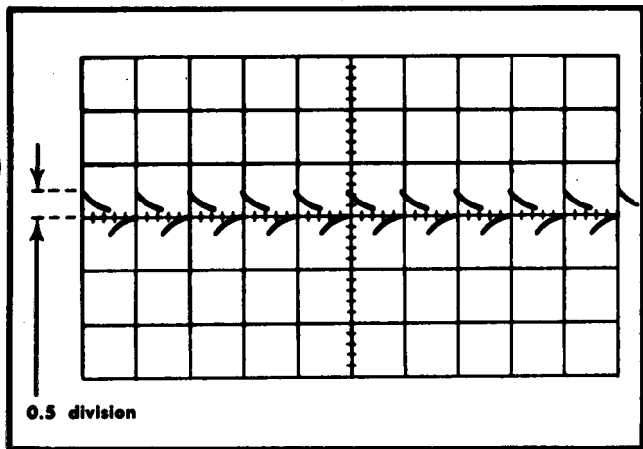

Fig. 6-59. Typical CRT display when checking calibrator current.
- f. CHECK-CRT display 0.5 division in amplitude (five milliseconds; see Fig. 6-59).